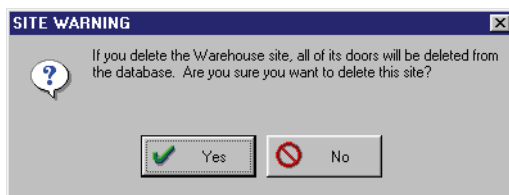

Figure 8-26: Site Deletion Confirmation Window
3. Click on the  button. Since removing a site permanently removes information from databases in the *Doors* program, a confirmation window appears (see Figure 8-26).